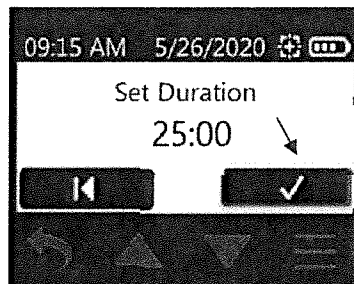

Figure 20. Accept Button
- Touch check mark to accept new time and return to Main Display. New time setting will display (Figure 20).